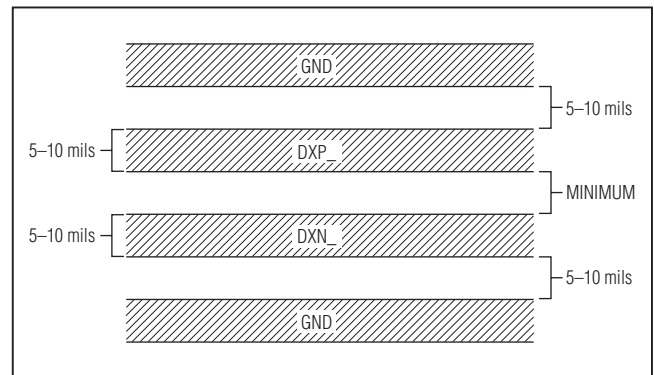

Figure 5. Recommended DXP\_–DXN\_ PCB Traces. The two outer guard traces are recommended if high-voltage traces are near the DXN\_ and DXP\_ traces.
- 3) Route the DXP\_ and DXN\_ traces in parallel and in close proximity to each other. Each parallel pair of traces should go to a remote diode. Route these traces away from any higher voltage traces, such as +12V DC. Leakage currents from PCB contamination must be dealt with carefully since a 20MΩ leakage path from DXP\_ to ground causes approximately +1°C error. If high-voltage traces are unavoidable, connect guard traces to GND on either side of the DXP\_–DXN\_ traces (Figure 5).